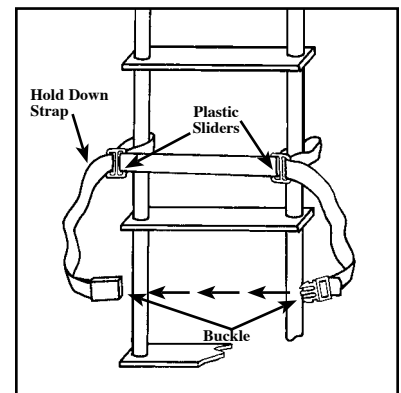

Figure 4
5. Starting from the left side, thread hold down strap through one opening on plastic slider, around ladder's left vertical member, and back through slider. Continue to thread strap through side of the second slider, around the ladder's right vertical, and back through slide. (Figure 4)